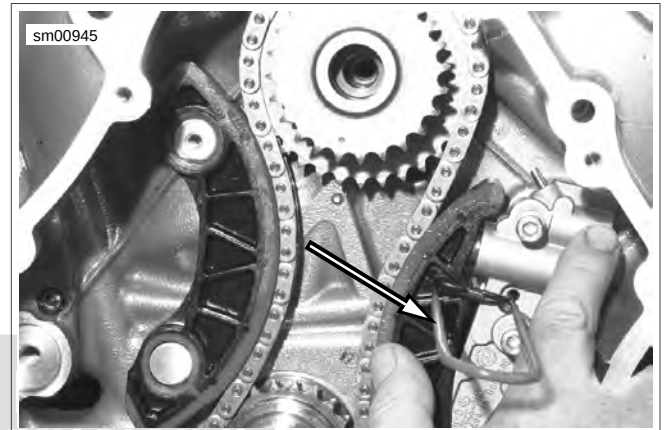

Figure 3-32. Primary Chain Tensioner Retainer
6. See Figure 3-32. Retract the chain tensioner and install PRIMARY CAM CHAIN TENSIONER RETAINER (Part No. HD-45326).